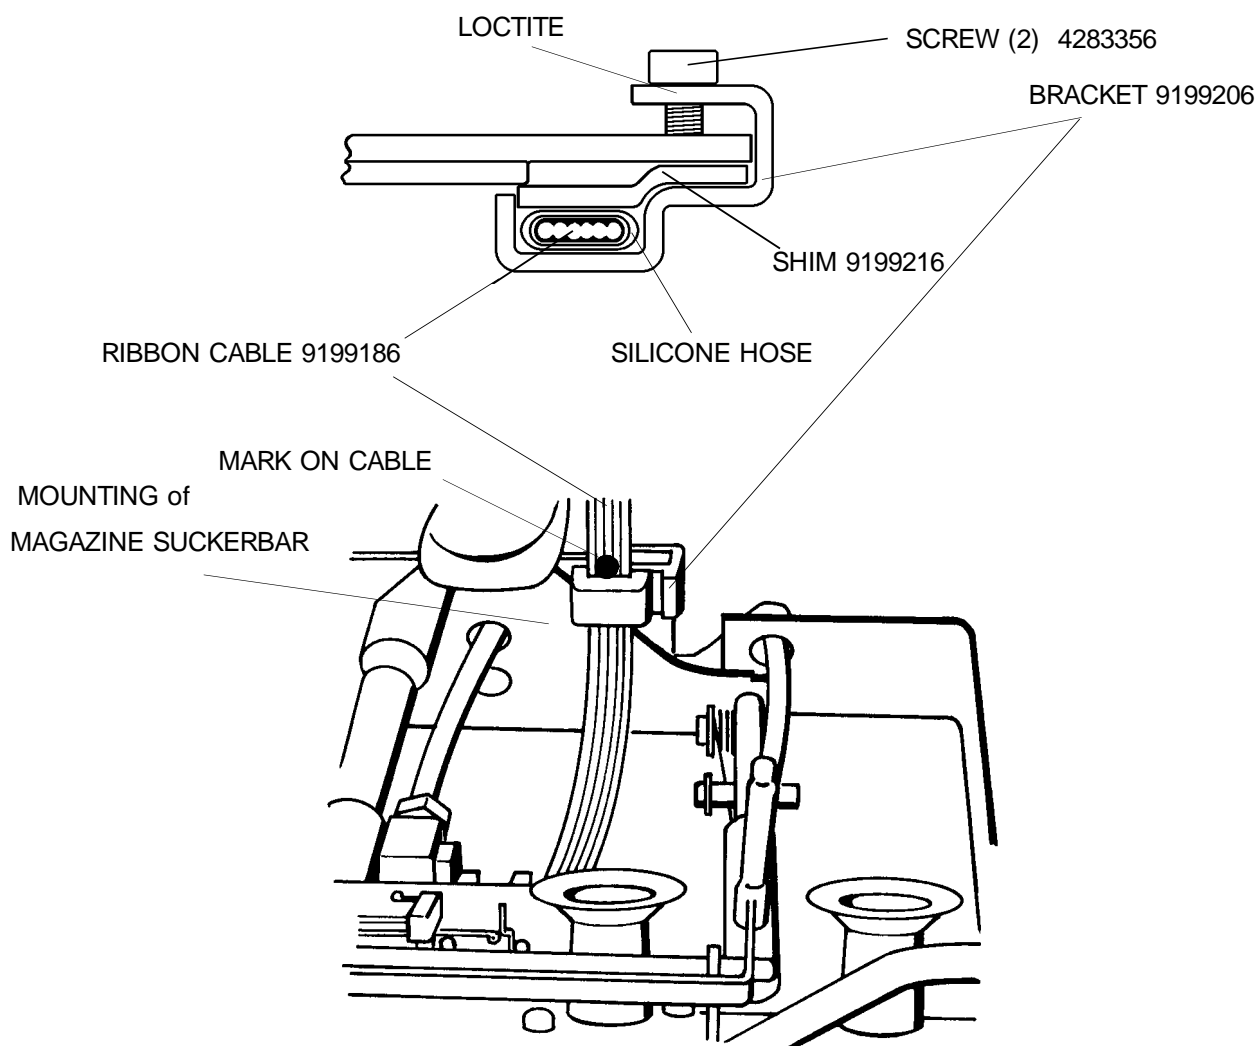

figure 4
8. Fix RIBBON CABLE 9199186 on MOUNTING of MAGAZINE SUCKERBAR as shown on figure 4. Check that the SILICONE HOSE is centered below BRACKET 9199206. Put some LOCTITE on SCREWS as indicated in figure 4.
- Slightly loosen the SCREWS on the BRACKET 9199206 shown in figure 4 and pull the RIBBON CABLE down until there is a small clearance between the LID and the RIBBON CABLE.